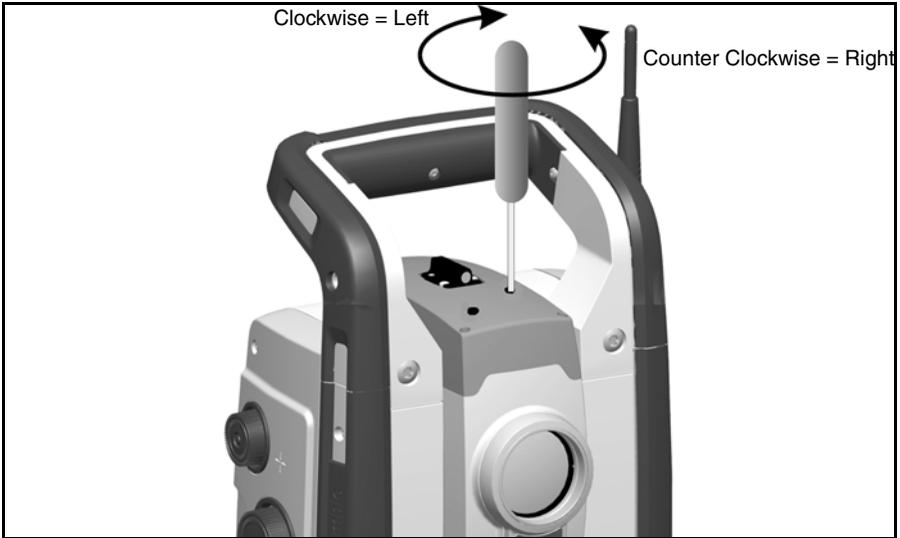

Figure 4.30 Horizontal position adjustment
3. To correct the horizontal position of the laser spot, insert the allen key into the horizontal adjustment port and turn it as shown in Figure 4.30.